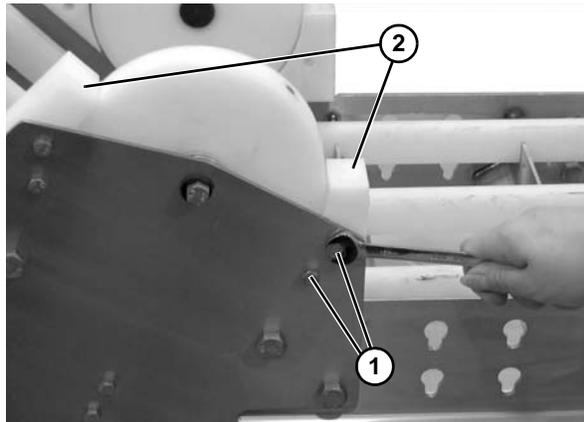

Figure 64
- Remove two cap screws (Figure 64, item 1) on each side of the knuckle and remove the hold down roller guards (Figure 64, item 2). Repeat on opposite side of the conveyor.